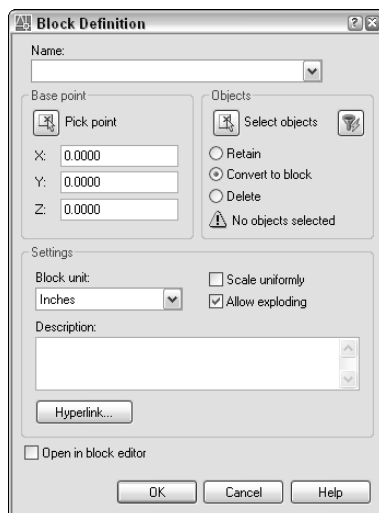

**Figure 18-3:** The Block Definition dialog box.
1.  Choose Make Block from the Draw toolbar to start the BLOCK command and open the Block Definition dialog box, shown in Figure 18-3. The dialog box guides you through the process of defining a block.